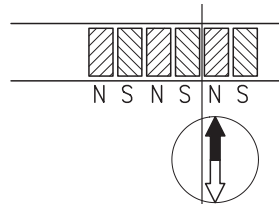

Fig. 8: Determination of the pole position. Cutting the magnetic strip
- If necessary, use a compass needle to determine the location of the poles on the magnetic strip (fig. 8).